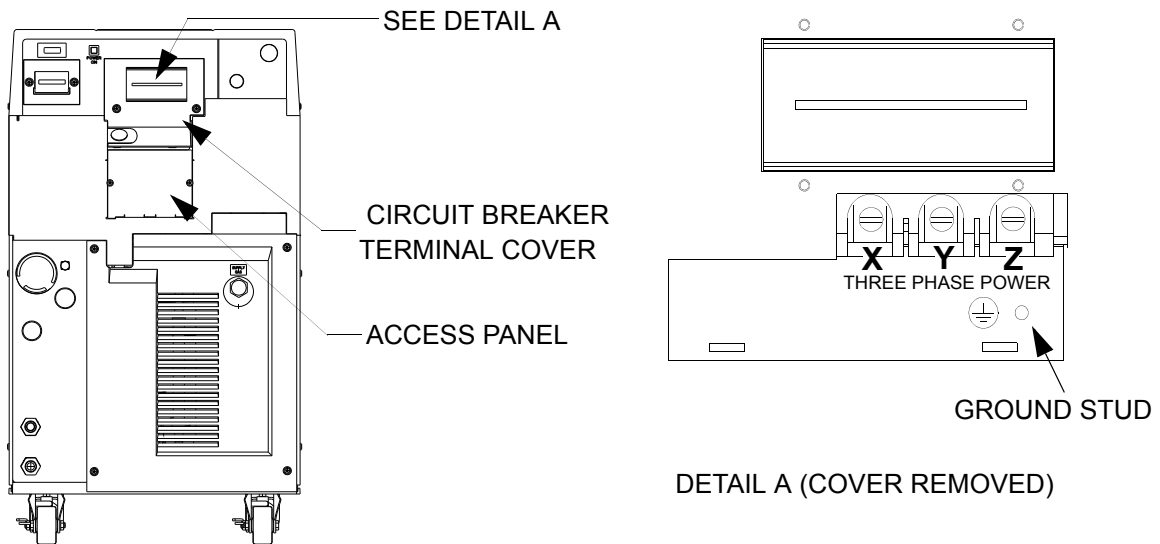

Figure 4-2: 9700A Compressor Circuit Breaker Terminals
5. Remove the access panel as shown in Figure 4-2 and described Note below.
6. Remove the circuit breaker terminal cover as shown in Figure 4-2.
NOTE: Use a slotted screwdriver that can hold a screw when performing steps 9 and 10. Remove the screws from the 9700A Compressor circuit breaker terminals X, Y, and Z as shown in Figure 4-2.
NOTE: For Japanese (or similar) installations where one of the three phase legs is at or near ground potential, connect that leg to terminal Y on the 9700A Compressor as shown in Figure 4-2.
9. Install the conductor terminal lugs to the circuit breaker terminals X, Y, and Z as shown in Figure 4-2.